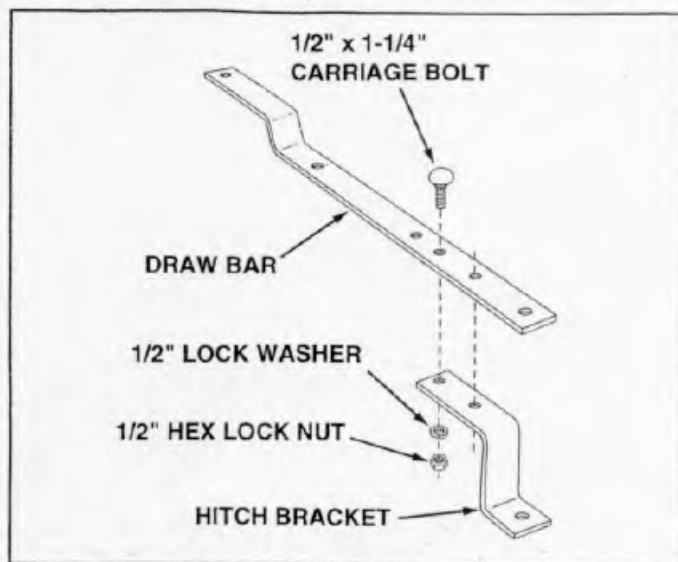

FIGURE 2
3. Assemble the hitch bracket to the draw bar using two 1/2" x 1-1/4" carriage bolts, 1/2" lock washers and 1/2" hex lock nuts. See figure 2.